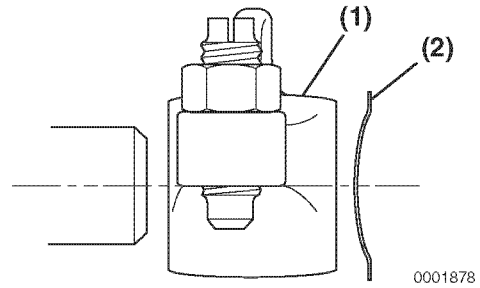

Figure 6-70
The wave washers (Figure 6-70, (2)) must be installed with the bow facing the rocker arms (Figure 6-70, (1)).